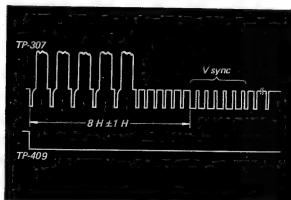

Fig. 7-4.
3. Adjust R411 on the SV4 Board so that the interval between the leading edge of vertical sync and leading edge of the 25 PG pulse is $8 \text{ H} \pm 1 \text{ H}$ as shown in Fig. 7-4.